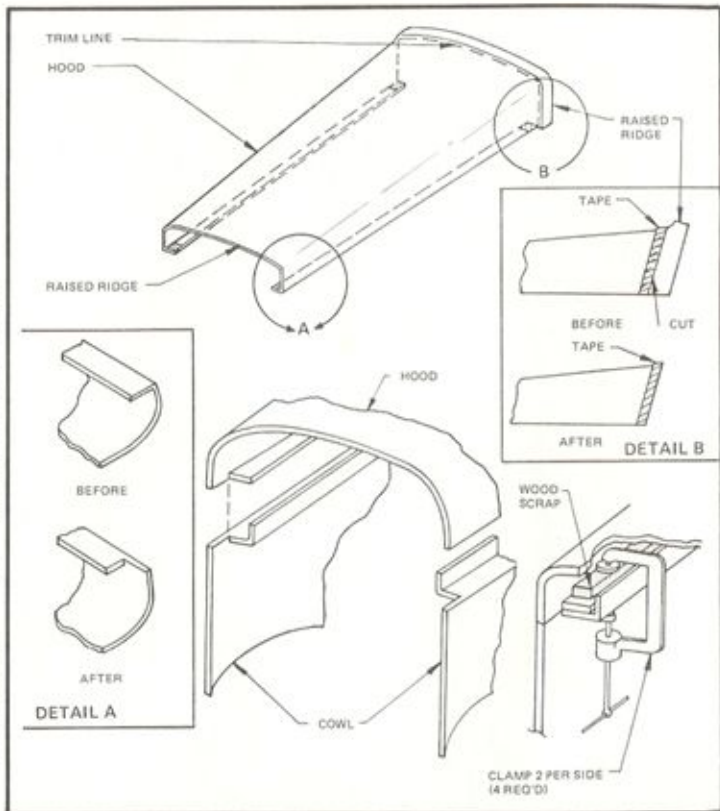

Figure 52
- Trim as per diagram. (Figure 52) The trim line is just inside the raised ridge on the rear of the hood. Trim the inner lip as shown.